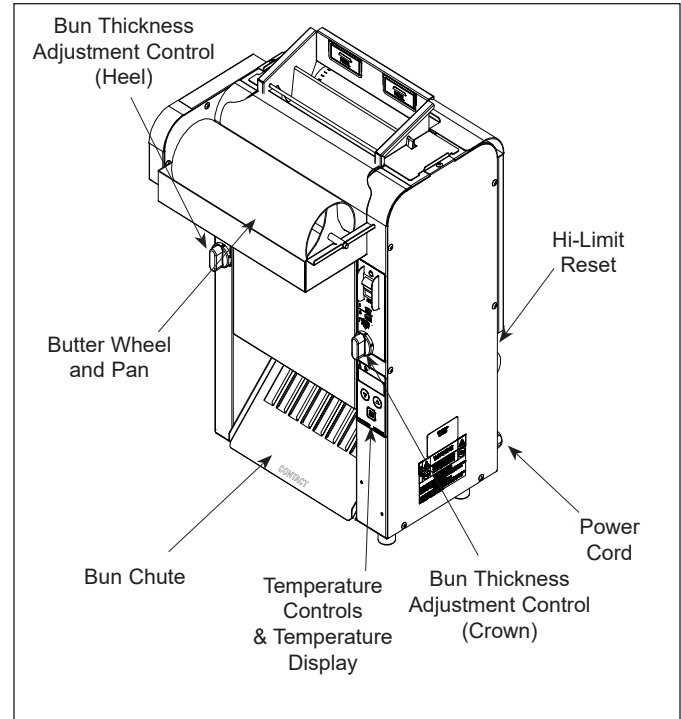

Figure 3. VCTM-2 Toaster
1. Set the Bun Thickness Adjustment Controls (Figure 3).
**NOTE:** The display (Figure 3) flashes “LO” during warm-up. “USE” appears when the toaster is ready for use.
6. Toasted buns drop onto the Bun Chute (Figure 3).
A Hi-Limit Control turns off power to the unit if it overheats. To reset the control, allow the unit to cool, then locate the Reset Button at the rear of the unit. Remove the black protective cap, press the Reset Button, and reinstall the protective cap (Figure 3).